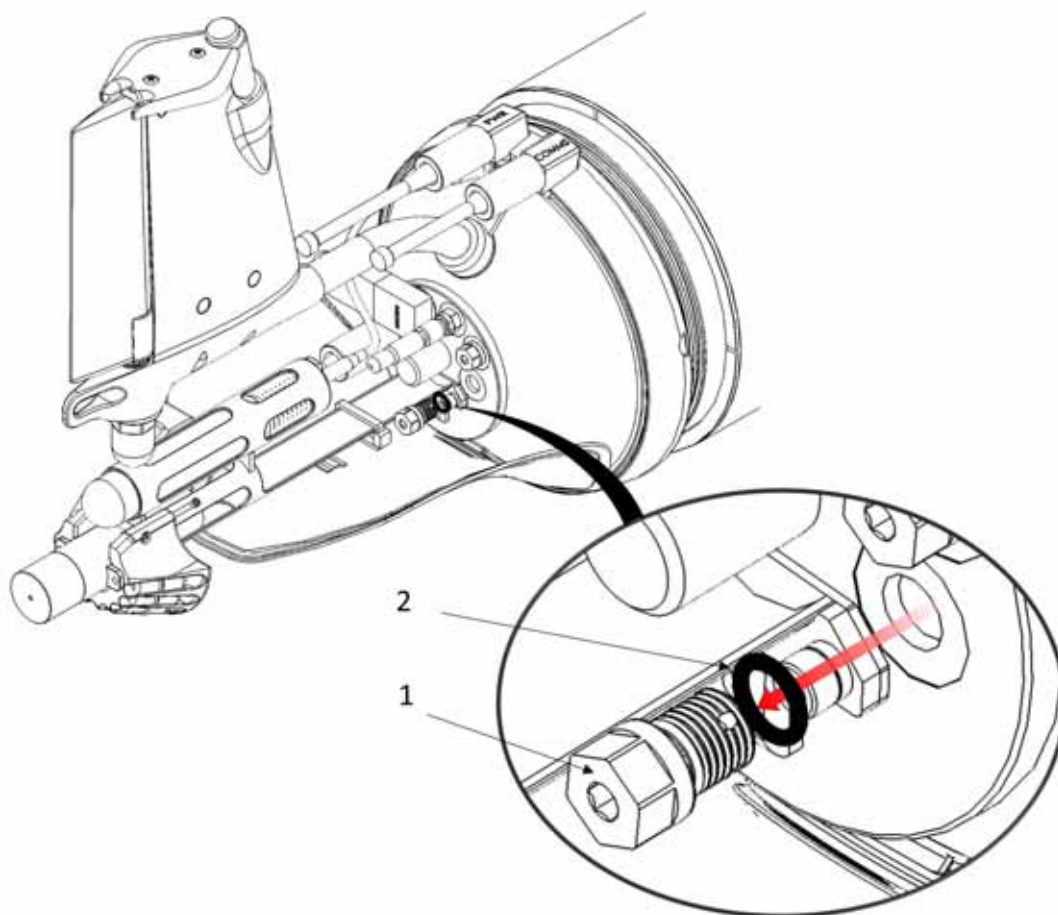

Figure 2-25 MS plug.
1. Using the 15 inch-pound torque T-handle, 24" extension and 3/16" hex bit, remove the MS plug (Figure 2-25, Item 1).
2. Remove the 3-904 O-ring (Figure 2-25, Item 2).
1. Inspect the 3-904 O-ring (Figure 2-25, Item 2) for cleanliness, nicks, slices, scratches, and dents.
2. Lubricate the 3-904 O-ring (Figure 2-25, Item 2).
3. Install the 3-904 O-ring (Figure 2-25, Item 2). Ensure that it is properly seated.
4. Using the 15 inch-pound torque T-handle, 24" extension and 3/16" hex, install the MS plug (Figure 2-25, Item 1) on the starboard side of the aft end cap. Tighten the plug to 15 inch-pounds of torque.